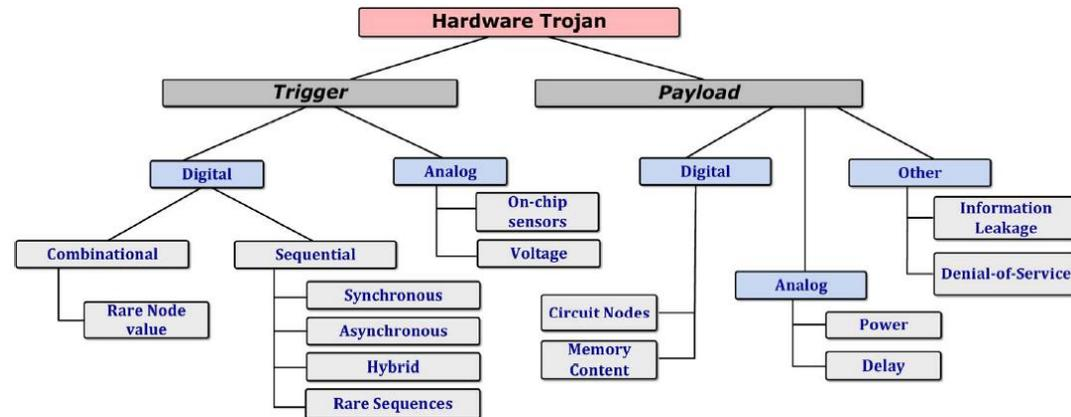

Figure 2 Trojan taxonomy based on trigger and payload mechanisms.
The taxonomy of Trojan circuits has been presented in various forms, and it continues to evolve as newer attacks and Trojan types are discovered. Figure 2 shows a high-level classification based on variations in activation mechanism and Trojan effect.
- 5) What classification does your Trojan belong to? Refer to Figure 2 to answer this question.